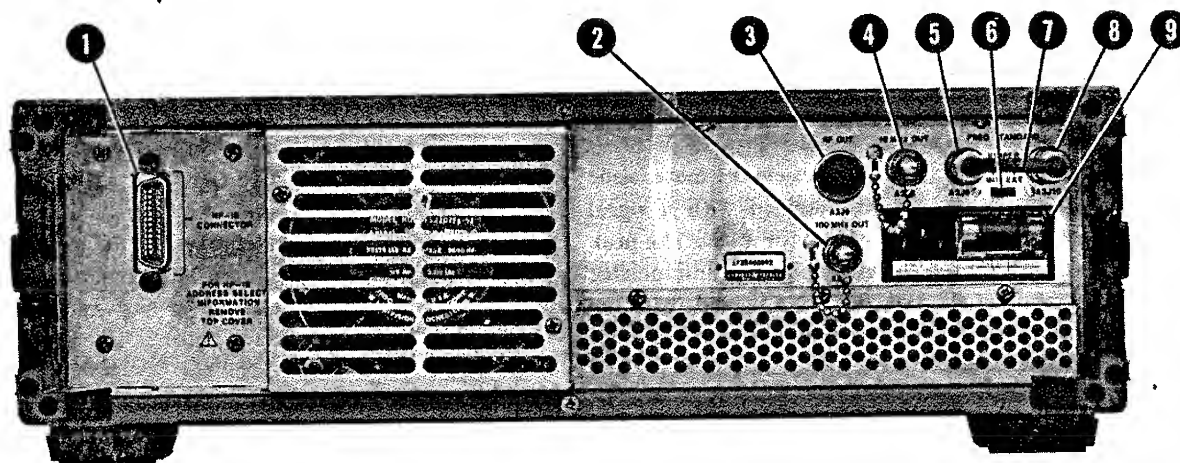

Figure 3-2. Rear Panel Connectors, Switches, and Displays
3-7. The only maintenance the operator should normally perform is the replacement of the primary power fuse (F1) located in the Line Power Module Assembly (9) (A3A11) shown in Figure 3-2 and the mechanical zero adjustment (22) of the meter shown in Figure 3-1. For instructions on how to change the fuse, refer to Section II, Line Voltage Selection.
**INTERNAL REF OFF:** when lit, indicates when the rear panel INT-EXT switch 27 (see Figure 3-2) is in the EXT position.
- 11 **PRESET key (3 GHz):** sets frequency to 3 GHz and extinguishes the Frequency Resolution Light Bars 8.
1. Check that the LINE switch **12** is in STANDBY and remove the power cable from the Line Power Module **9** (see Figure 3-2).
2. Check that Line Power Module **9** (see Figure 3-2) is set to the nominal line voltage to be used and that the fuse is the correct value and type.
1. On the rear panel (see Figure 3-2), remove Jumper **7** (A3W3) from the FREQ STANDARD EXT connector **8** (A3J10), and set the FREQ STANDARD INT/EXT switch **6** to EXT.